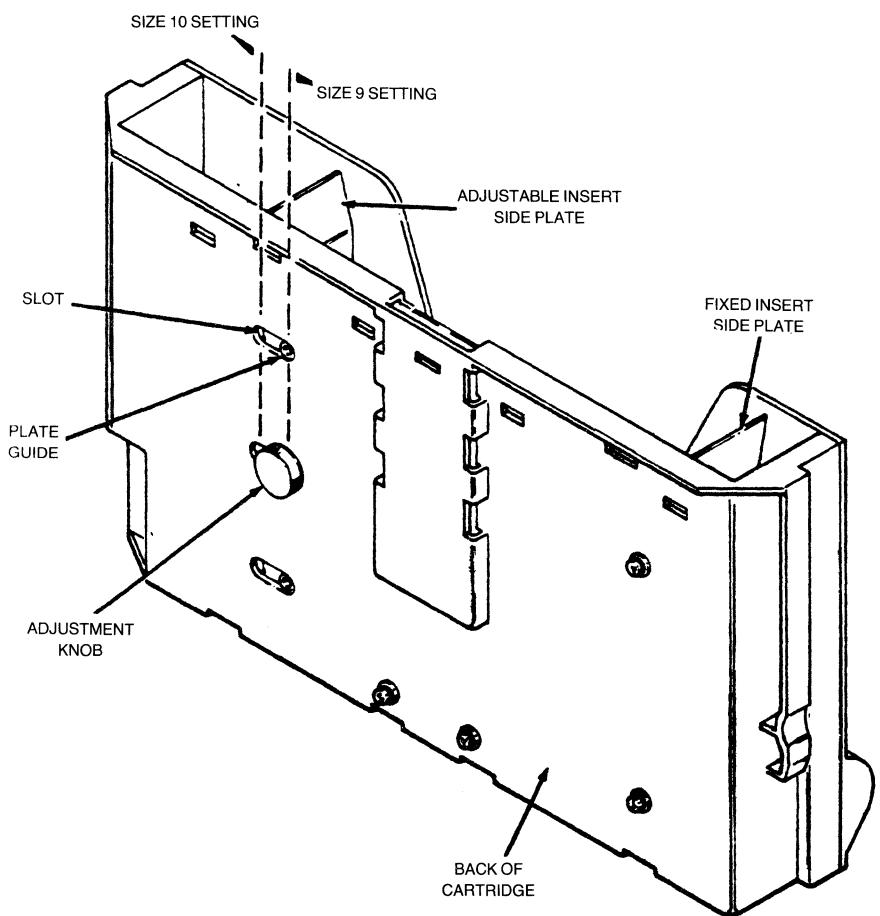

Figure C-6 Adjustable Envelope Cartridge; Set for Size 9 Envelopes.
1. Loosen the adjustment knob at the back of the cartridge (See Figure C-6)
Look at the back of your feeder to determine if it has an adjustment wheel like that shown in Figure C-6. If the wheel is present, perform steps 1 and 2 below. If your feeder does not have the wheel, skip to steps 3 through 7 below.